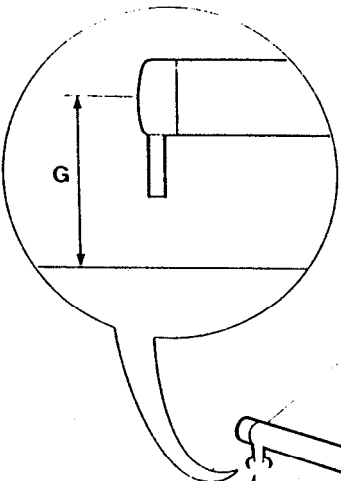

Fig. 8
- Measure dimension G (Fig.8) ensuring the Autohelm actuator is horizontal.